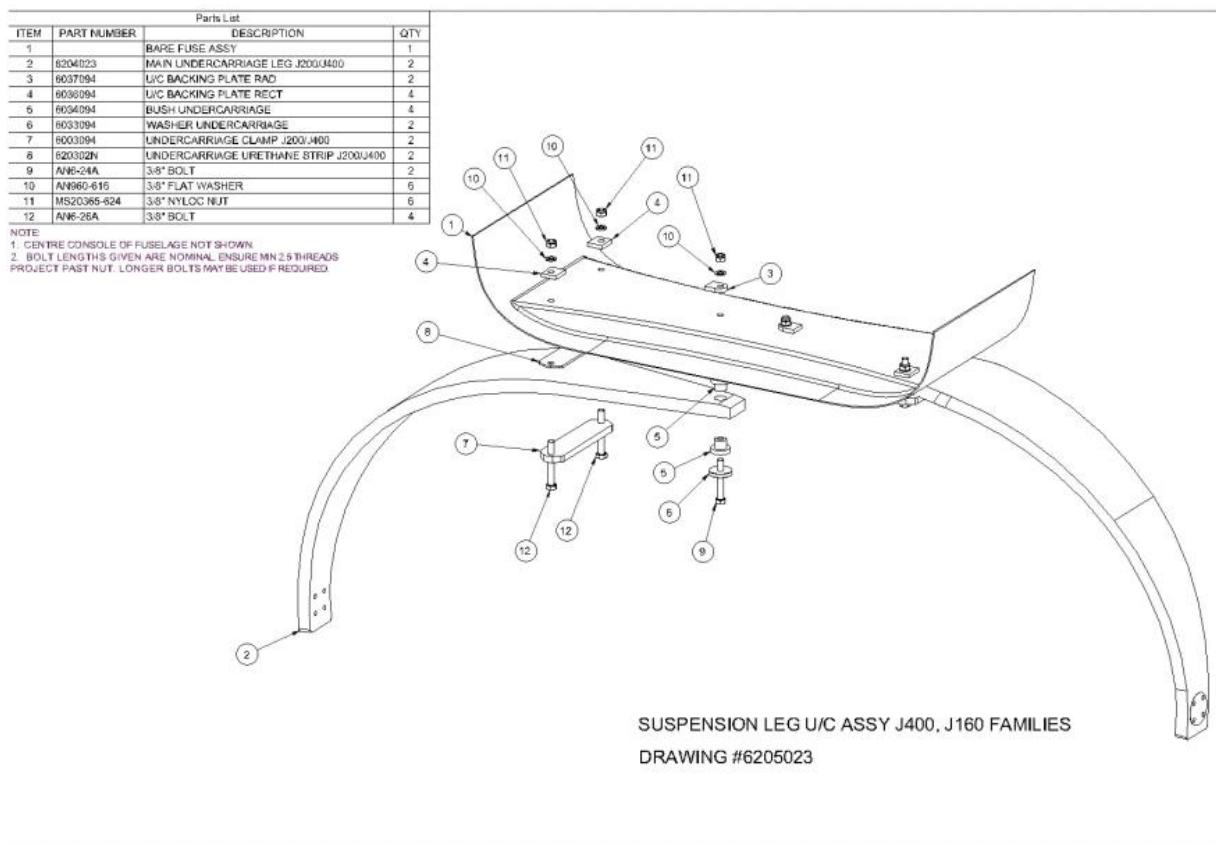

Figure 80 – Main Undercarriage Assembly (Type 2)
- For the curved undercarriage leg show in Figure 80, tighten outboard clamp bolts/nuts (2 OFF). Torque to “solid laminate” value give in Table 2-8.